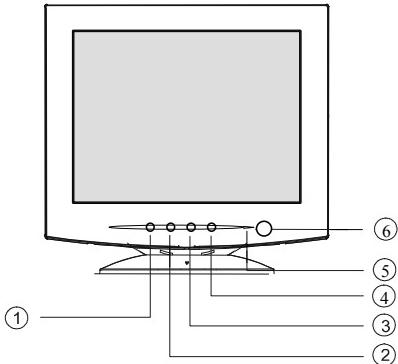

Figure 4: Control Buttons
- 3 Locate the power button (see Figure 4 on page 9).
The power button is located on the front panel of the monitor. The buttons to the left of the power button are for adjusting the monitor's picture. See Figure 4 and Table 1 on page 9 for the layout and names of the control buttons.